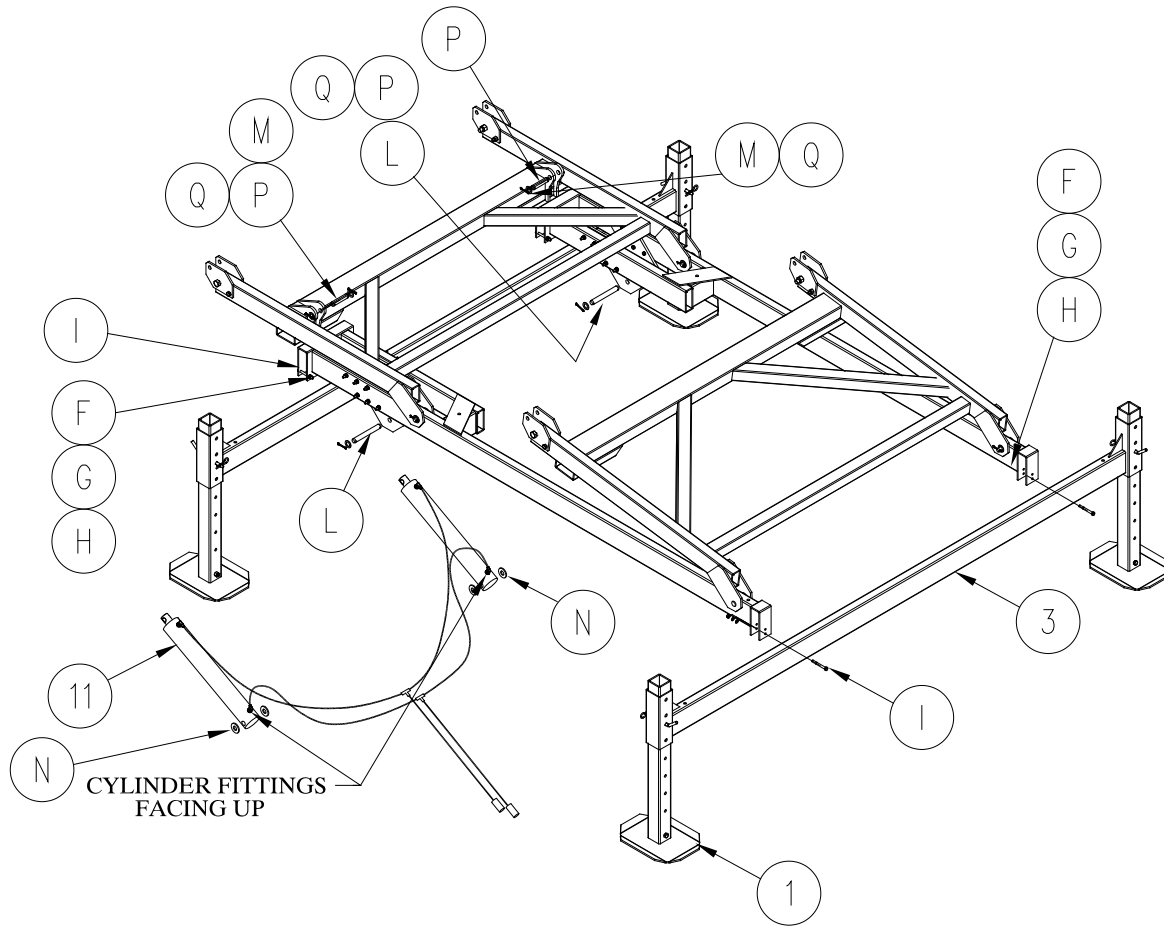

Figure 3-4.
1. **Refer to Figure 3-4.** Install the hydraulic cylinders (11) onto the main frame. Place the cylinders in position so that the hydraulic fittings are facing upward. Place the cylinders in position and insert pin (L) through only one cylinder support plate. Install flat washer (Q) between the cylinder and the cylinder support plate. Insert clevis pin through the cylinder body. Insert another flat washer (Q) between the cylinder and the other support plate.
1. **Refer to Figure 3-4.** Install left side main frame (4) and right side main frame (5) onto each leg assembly. Center the main frames onto the leg assembly as close to center as possible.